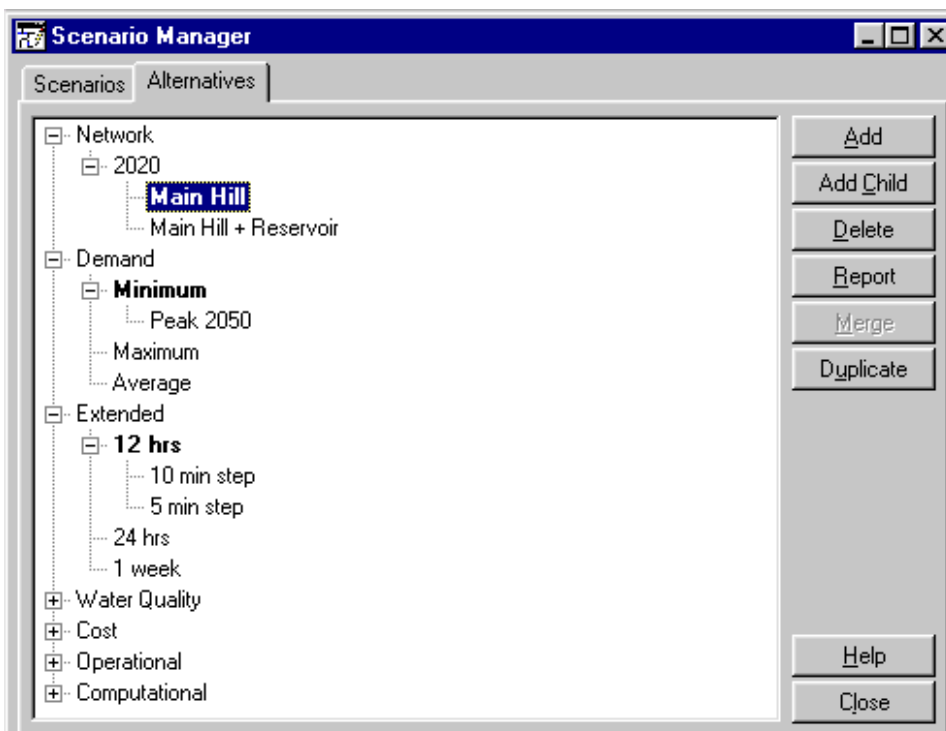

Figure 2: Scenario Manager Dialog, Alternative Tab
- Alternatives - for creating, editing and managing alternatives, see Figure 2